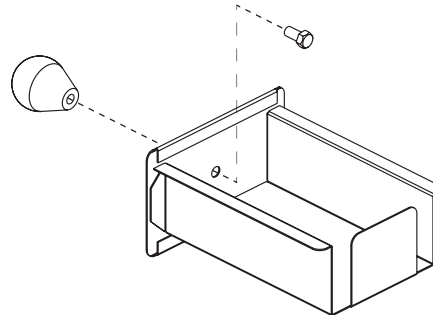

FIGURE 13
Install one 1/4-20 x 1/2 hex head BOS into drip pan drawer assembly (2) and tighten knob (1). Figure 13.